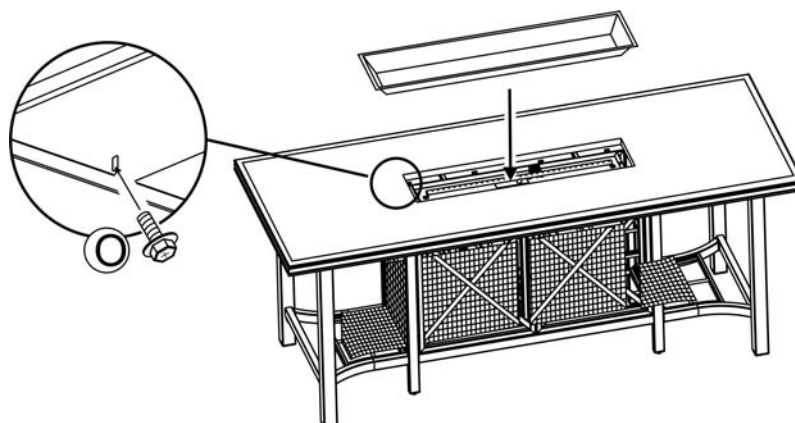

Figure 5
6. Place the burner pan protective ring into the firepan/burner assembly as shown in Figure 5. Align the holes in the burner pan protective ring with the pre-drilled holes on the firepan/burner assembly. Secure the burner pan protective ring to the firepan/burner assembly by using the M4 screws as shown in Figure 5.